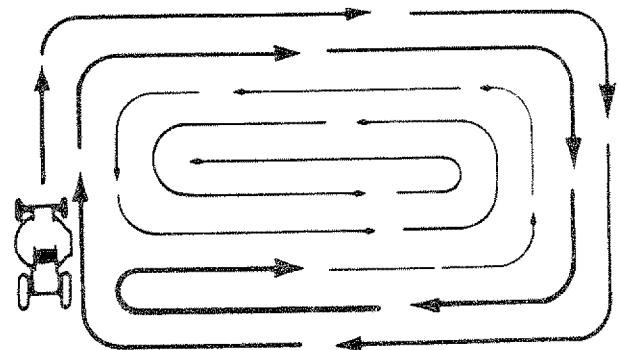

FIGURE 19
- When mowing large areas (Fig. 19), start by turning to the right so that the clippings will discharge away from shrubs, fences, driveways, etc. After one or two rounds, mow in the opposite direction making left hand turns until finished.